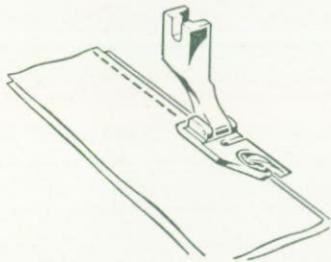

Fig. 44
- Place a piece of fabric on top of the other so that their right sides face each other. Right edge of bottom piece should protrude about $1/8"$ beyond right edge of top piece (Fig. 44).